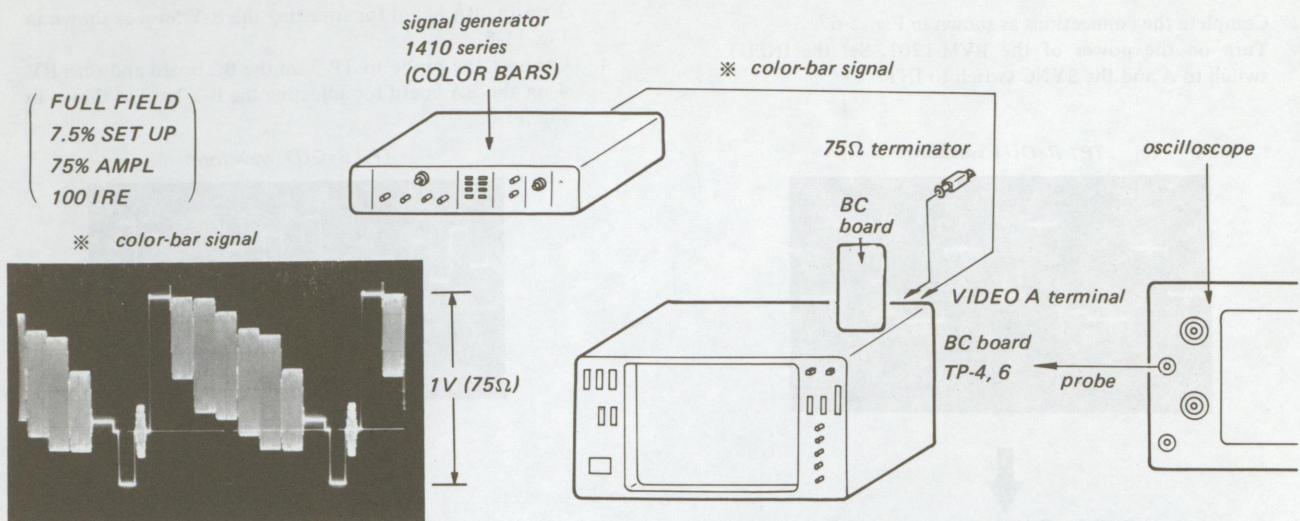

Fig. 5-82.
1. Complete the connections as shown in Fig. 5-82.